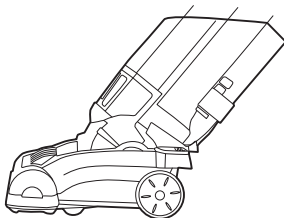

Fig. 3
3. Middle position - for normal cleaning (Fig. 3).